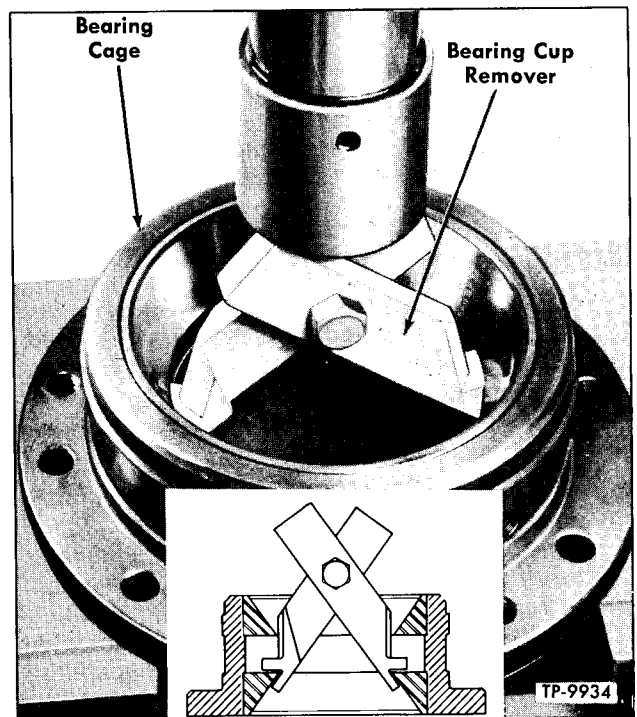

Figure 9—Pinion Cage Bearing Cup Removal
10. Remove oil seal (29) assembly from pinion cage.
11. When inspection indicates necessity, cups (32 and 34) can be removed from cage, using remover (J-3940) in manner illustrated in figure 9.